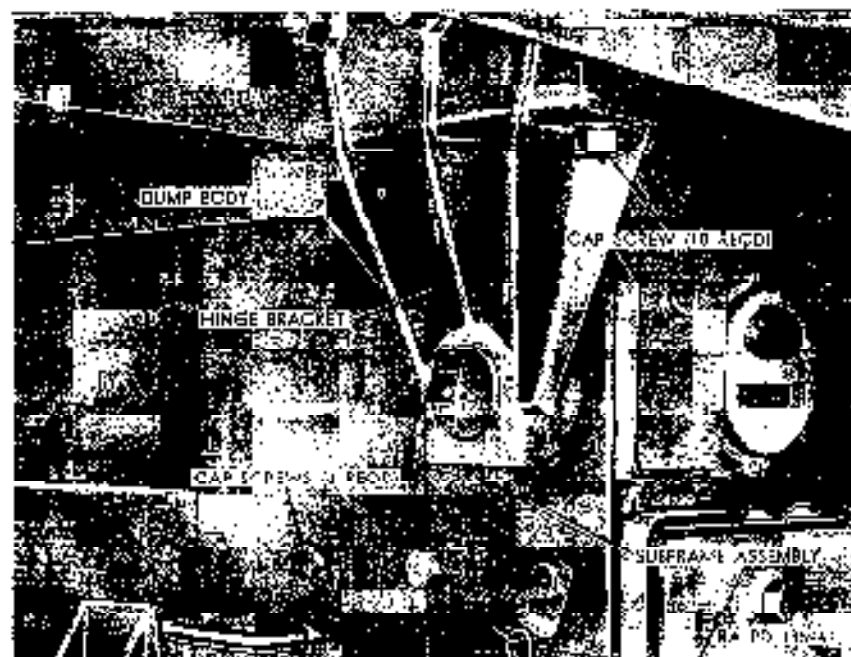

Figure 326. Left rear corner of dump body M51.
- (3) Align holes in hinge brackets (fig. 326) with holes in rear corners of dump body, and secure hinge brackets to body with 10 cap screws, lockwashers, and hex nuts. Tighten cap screws and nuts.